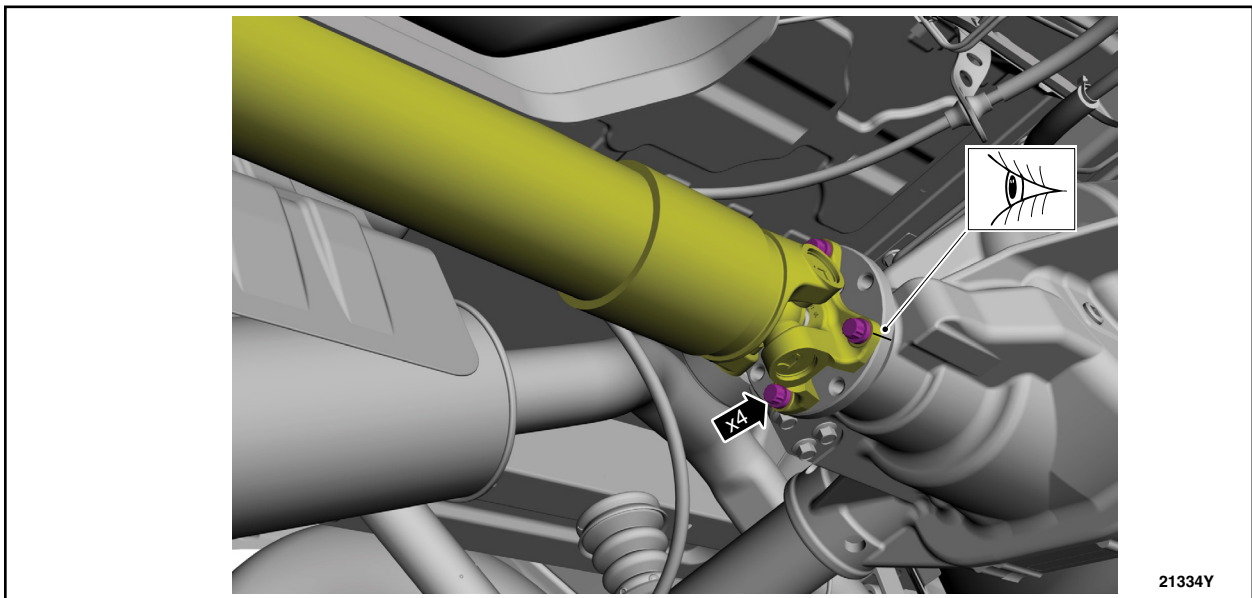

FIGURE 24
34. Align the index-mark on the driveshaft and rear drive pinion flange (yellow dot). Install the new driveshaft to the rear drive pinion flange bolts. See Figure 24.